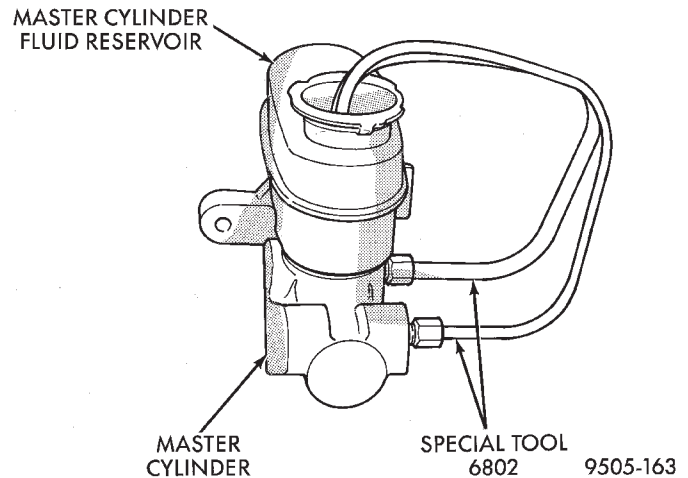
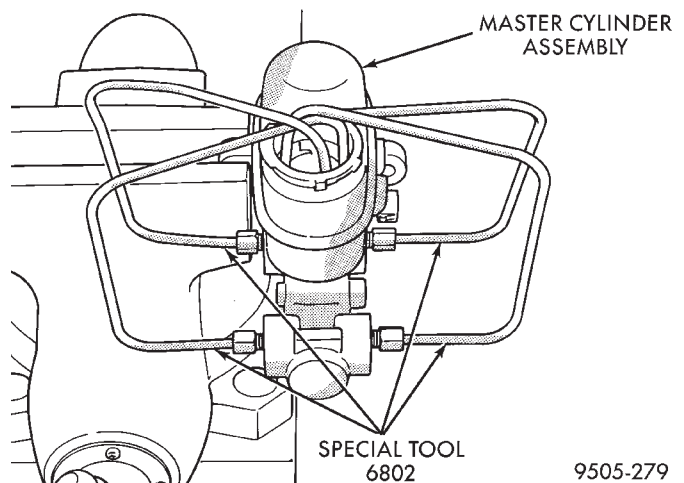

Fig. 32 Bleeding Tubes Attached To MasterCylinder With ABS
Fig. 33 Bleeding Tubes Attached to MasterCylinder With Out ABS
(1) Clamp the master cylinder in a vise. Attach Bleeding Tubes, Special Tool 6802 to the master cylinder outlet ports (Fig. 32) or (Fig. 33). Position bleeding tubes so the outlets of the bleeding tubes will be below the surface of the brake fluid when reservoir is filled to proper level.